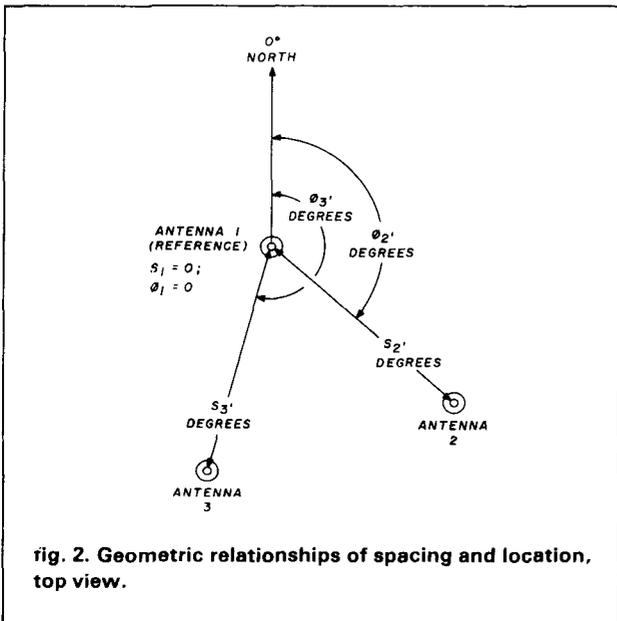

fig. 2. Geometric relationships of spacing and location, top view.
Eqs. 2 and 3 are explained with the aid of a three-antenna array shown in fig. 2. An elevation angle, θ , is chosen for all horizontal angles, ϕ . Eq. 1 is solved for each array antenna to yield $f(\theta)$; it may be considered constant for all values of ϕ . The array geometry will define S_k and ϕ_k .
*The Greek letter sigma in eq. 1 means the summing of all individual k-subscript terms calculated separately in the form to the right of sigma. The fig. 2 example would have k values of 1, 2, and 3, since $n = 3$. Editor.